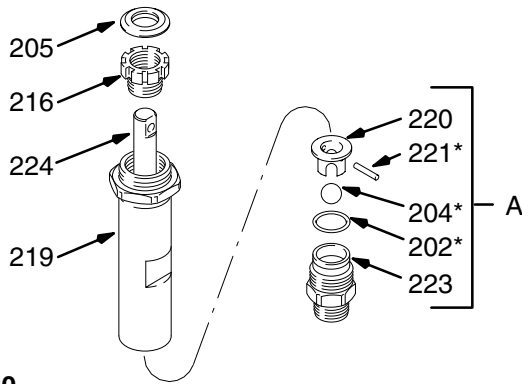

Fig. 30 04230
3. Unscrew the intake valve assembly (A) from the cylinder (219). Remove all of the parts. See Fig. 30.
5. Remove the packing nut (216) and the plug (205). See Fig. 30.
6. Use a plastic mallet to tap the piston rod (224) down. Pull the rod out from the bottom of the cylinder (219). See Fig. 30.